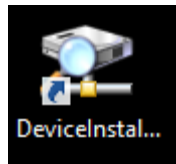

Fig 5.1.1
5.1 Once the software is installed, double click the icon “DeviceInstaller” (as shown in Fig 5.1.1) to start the software.